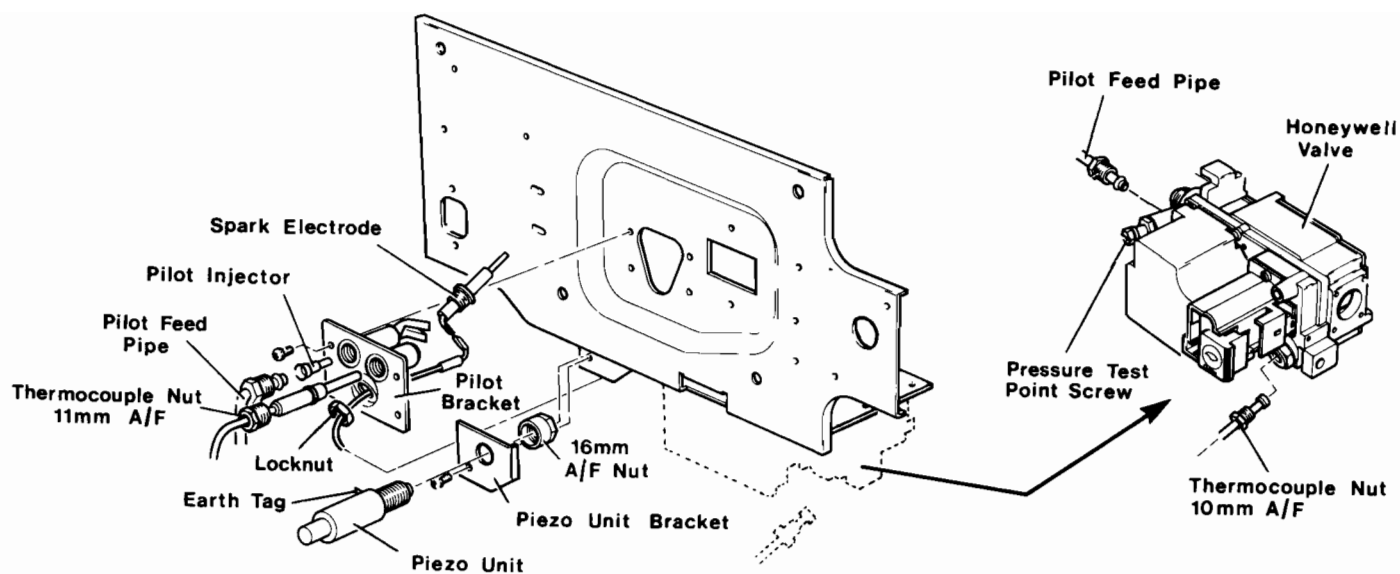

Fig. 17.
21. Remove the pressure test point screw, connect a pressure gauge and operate the burner by turning the thermostat knob to its highest setting (Fig. 17).
Thermocouple (Fig. 17)
Spark Electrode (Fig. 17)
Piezo Unit (Fig. 17)
- (ii) Remove two screws securing insulation carrier to panel controls (Fig. 17).